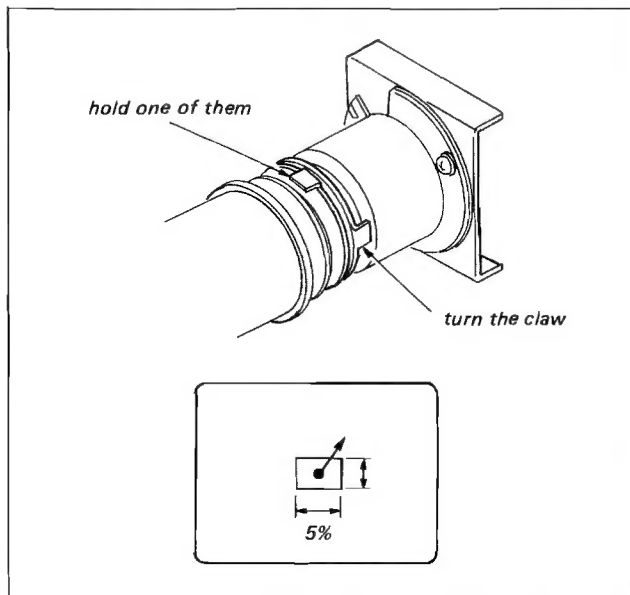

Fig. 8-2. Alignment magnet adjustment
- (1) While holding one of the two alignment magnets with finger securely shown in Fig. 8-2, turn the other magnet slightly to find the point where the object (in the center of the monitor screen) shift is within 5% of the monitor size even though R7 (FOCUS)/PA-1 is turned 45° ↻ and is then turned 45° ↺.